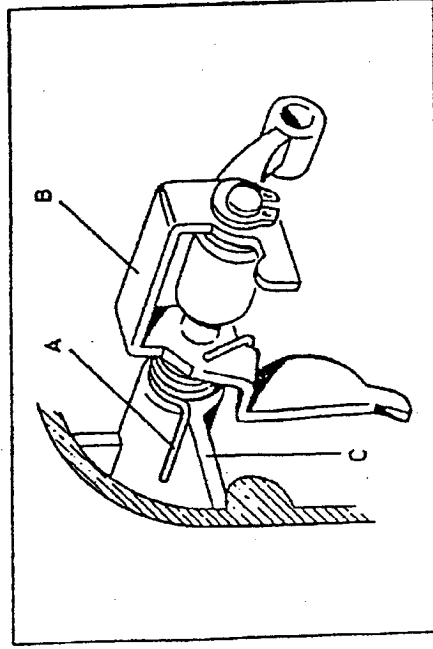

Fig. 18
- push toward the interior the group of these three parts inserting also the head of connecting rod C on lever D of the counter-weight and charging suitably the return spring A of the finger (fig. 18).
rod B (fig. 18) by making it adhere to the push rod by means of some grease. After the assembly has been finished, the straight end of the spring must rest on the horizontal ribbing of the machine casting C, so as to have a sufficient charge.
Assembly (fig. 18) .